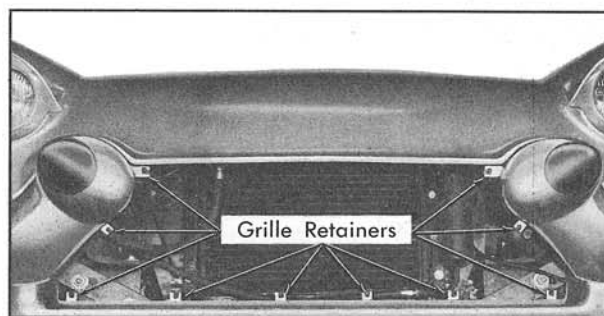

Fig. 16-5 Grille Retainer Locations
1. Remove the six cross headed screws from bottom of grille that retain grille to bumper, Fig. 16-5.
(7) Disassembly and Assembly of Radiator Grille